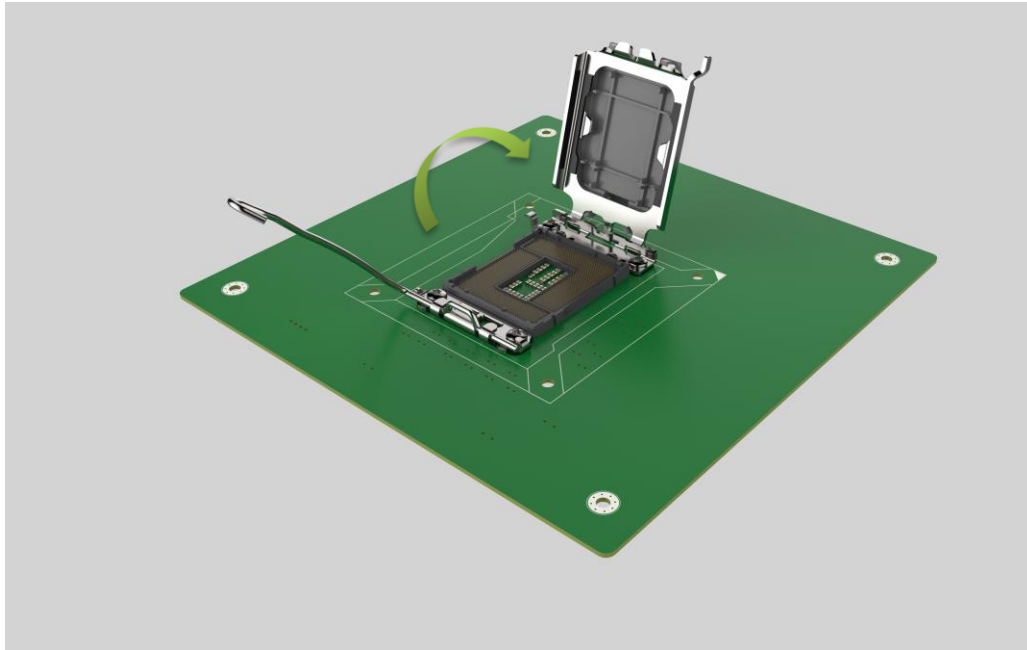

Figure 4-4: Remove Protective Cover
- Step 2:** Open the socket and remove the protective cover. The black protective cover can be removed by pulling up on the tab labeled "Remove". See **Figure 4-4**.